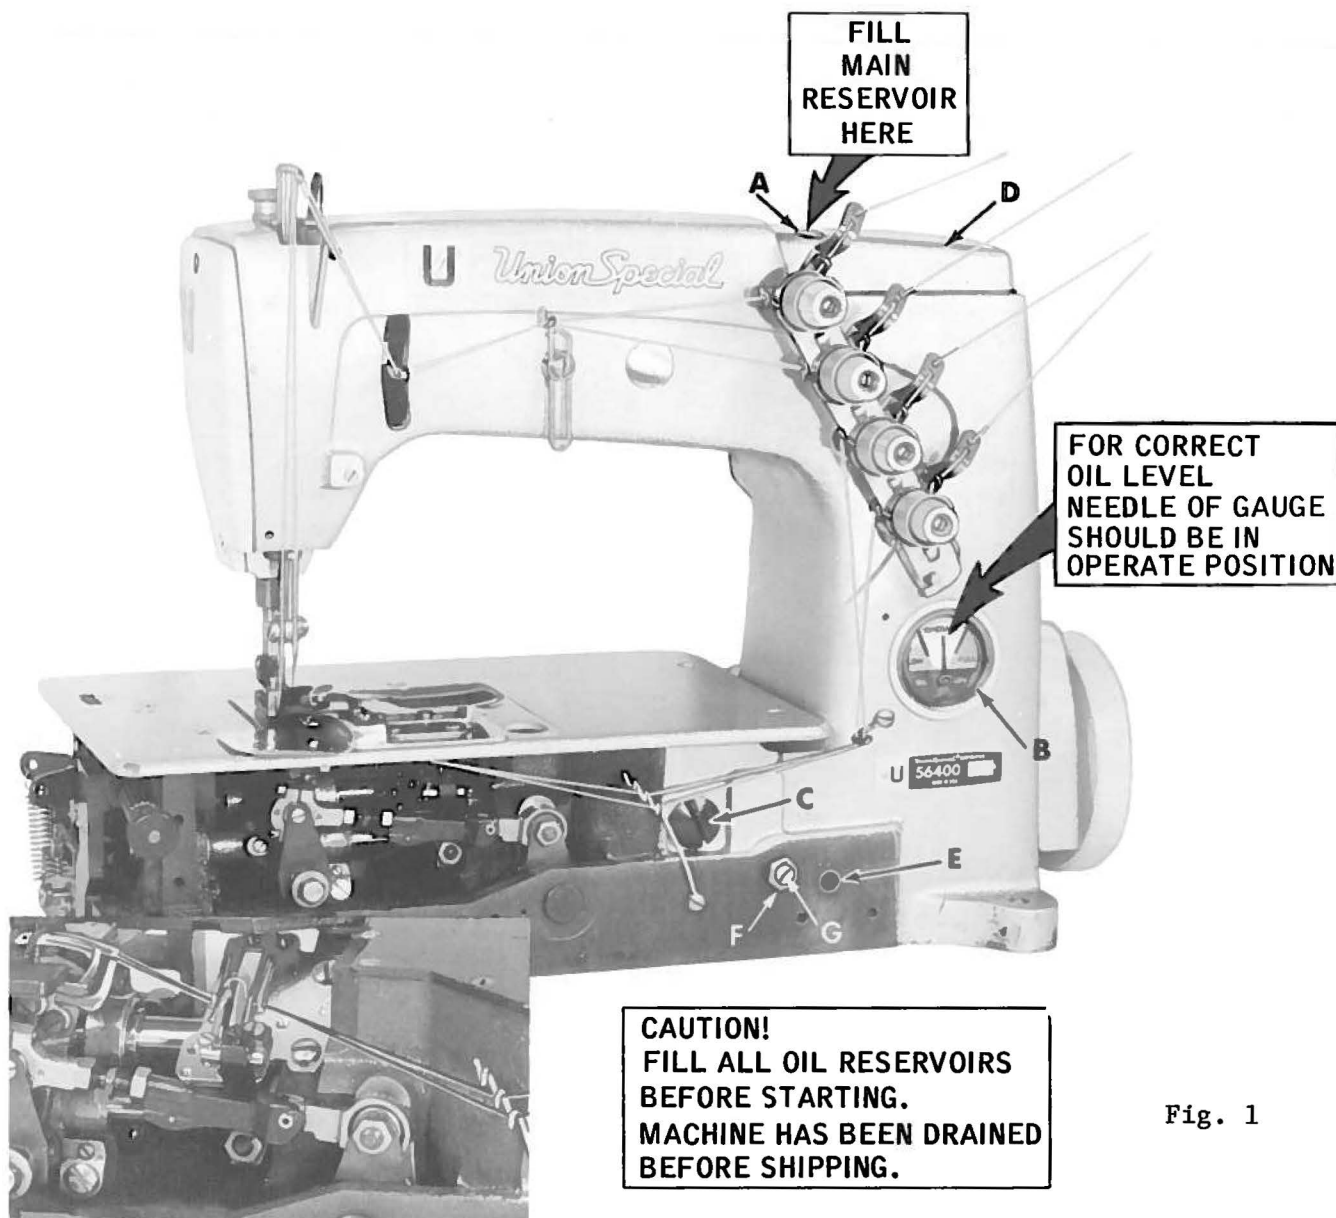
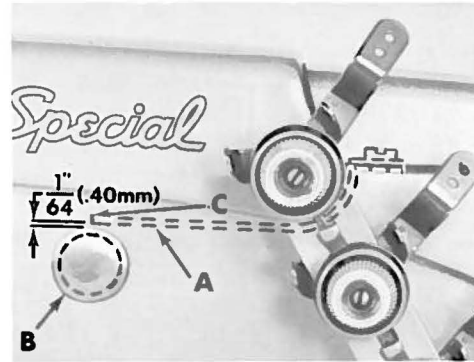

Fig. 1
Fig. 2
The oil has been drained from the machine before shipping and the reservoir must be filled before starting to operate. To fill machine with oil, remove plug screw (A, Fig. 1) in top cover and add oil until needle of oil gauge (B) is on the black line, located to the right of "OPERATE" zone marked "FULL". Use a straight mineral oil of a Saybolt viscosity of 90 to 125 seconds at 100° Fahrenheit. Maintain oil level in "OPERATE" position and add oil when needle is to the black line located to the left of "OPERATE" zone marked "LOW". The machine is automatically lubricated and no oiling other than keeping the main reservoir filled is necessary.
Excessive oil in the main reservoir may be drained at the plug screw (C, Fig. 1) in the main frame to the left of the oil gauge.
CAUTION! Oil has been drained from the main reservoir before shipment, so the reservoir must be filled to the proper level as indicated on oil gauge (B, Fig. 1) before beginning to operate. Run machine slowly for several minutes to distribute the oil to the various parts. Full speed operation can then be expected without damage.
Use a straight mineral oil of a Saybolt viscosity of 90 to 125 seconds at 100° Fahrenheit in the main reservoir. This is equivalent to Union Special specification No. 175. Fill main reservoir at plug screw (A, Fig. 1) in upper crank chamber cover (D) and check oil level at gauge (B). Oil is at maximum safe operating level when needle is to the black line, located to the right of "OPERATE" zone, marked "FULL". Oil should be added when needle is to the black line, located to the left of "OPERATE" zone, marked "LOW". The recommended oil is available in 16 fluid ounce cans No. 28604 R.
For machines in operation check the oil for dirt and lint deposits at reasonable intervals. If dirty, change the oil. An oil change is recommended every 2000 operating hours. Oil may be drained from main reservoir by removing plug screw (C, Fig. 1) located below the cloth plate at front of the machine, or by removing the lower crank chamber cover, located at the back of machine.
2. Remove the oil reservoir plug screw (C, Fig. 1) and tip machine forward to drain oil from the reservoir.
5. Fill main reservoir to a level even with the bottom contour of the knee press shaft bushing (E, Fig. 1).
6. Loosen lock nut (F) on calibrating screw (G), and turn the screw to the left or right until the gauge needle rests on the black line,
Remove the head cover and upper crank chamber cover (D, Fig. 1). Check position of needle lever bearing oiler (A, Fig. 2) located inside the arm casting, below the upper crank chamber cover, which lubricates the needle lever stud (B). Make sure it is tilted downwardly and that its delivery end (C) contacts the inside wall of the bed casting at the back, just above the notch of the needle lever shaft stop collar. (Do not allow the oiler to rest on the needle lever). Allow $\frac{1}{64}$ inch (.40mm) clearance as in Figure 2.
Draw looper and needle threads into the machine and start operating on a piece of fabric. Refer to threading diagram (Fig. 1) for manner of threading this machine.